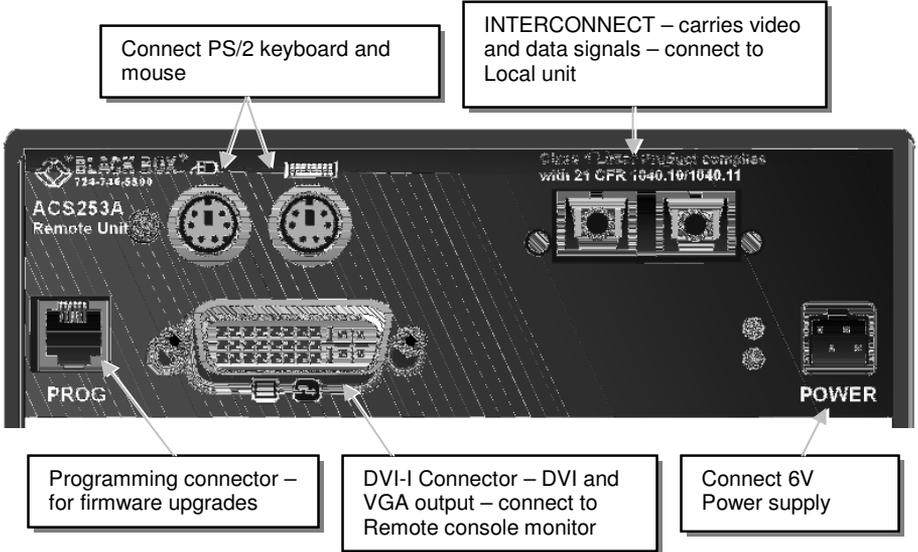

**Figure 2 ACS253A-CT Remote Unit**
2. Connect your keyboard, monitor(s) and mouse to the Remote unit as shown in Figure 2 (ACS253A-CT), Figure 4 (ACS253A-SM/MM) or Figure 6 (ACS253A-U-SM/MM).
3. Connect the interconnect cable to the INTERCONNECT socket(s) as shown in Figure 2 (ACS253A-CT), Figure 4 (ACS253A-SM/MM) or Figure 6 (ACS253A-U-SM/MM).